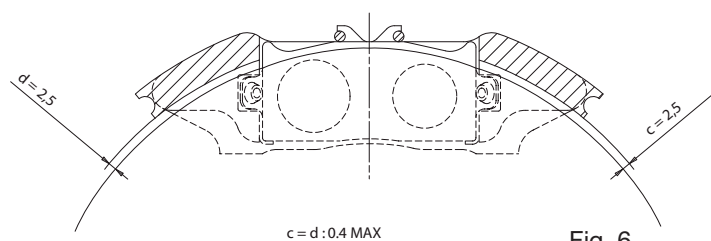

Fig. 6
g. The clearance between disc outer circumference and Caliper Bridge must be 2 mm MIN, with a difference between the two sides of 0.4 mm MAX (see Fig. 6).